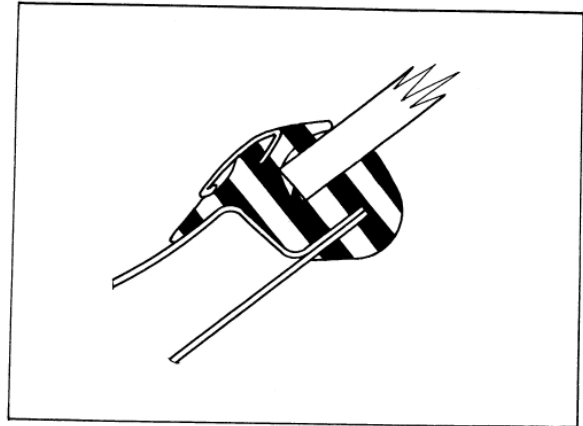

Fig. BF-60 Sectional view of rubber channel
(5) When glass and channel are properly positioned in opening, slowly pull ends of cord, starting at upper center of windshield to seat lip of rubber channel over spot welded flange. Cord should be pulled first across top of windshield, then up each side and finally across windshield bottom.
(6) Using a pressure type applicator, seal inner and outer lips of rubber channel to glass with an approved weatherstrip adhesive as indicated in Figure BF-60 Seal completely around rubber channel.